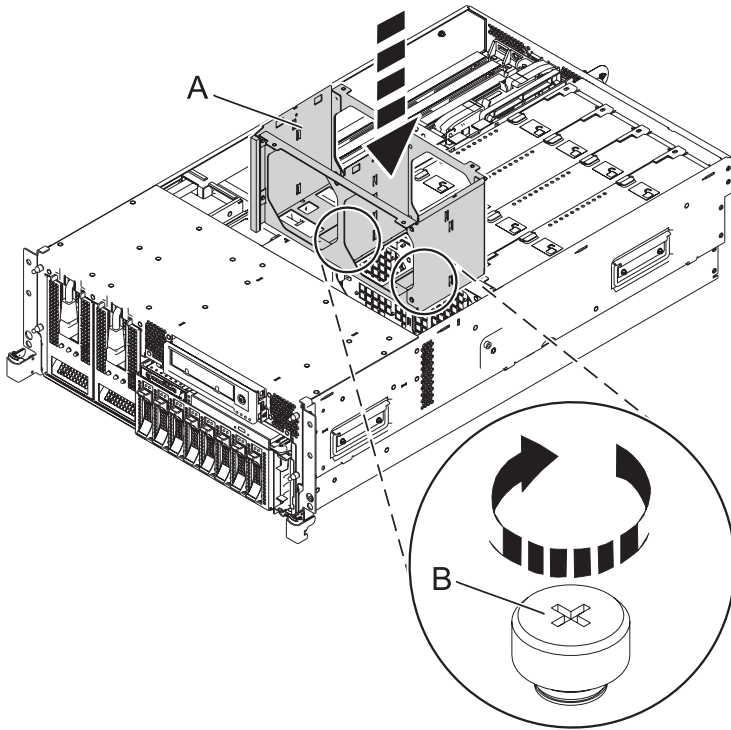

Figure 15. Replacing the fan cage
- a. To replace the fan cage (A), align the locator pins through the holes, and tighten the two thumbscrews (B), as shown in Figure 15.